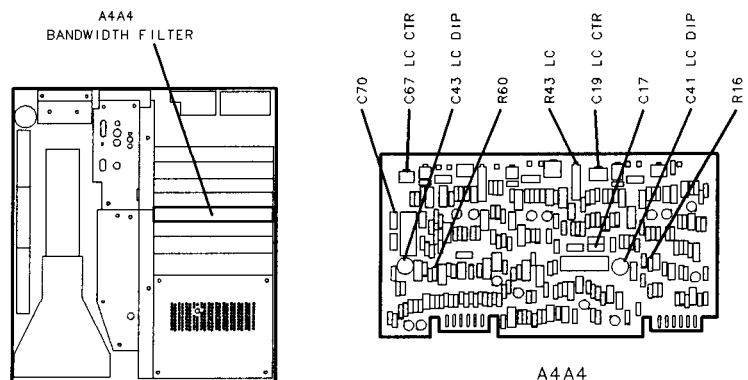

Figure 3-41.
9. Adjust A4A4C67 LC CTR and A4A4C19 LC CTR for maximum MARKER level as indicated by CRT annotation. See Figure 3-41 for location of adjustments. If unable to adjust LC CTR adjustments for satisfactory signal amplitude, increase or decrease value of A4A4C17 and A4A4C70. Refer to Table 3-3 for range of values.
12. Adjust **A4A4R43** LC to align markers on display. **MARKER A** level should indicate 1.00 X. See Figure 3-41 for location of adjustment.
57. Adjust **A4A4C41** LC DIP for minimum amplitude of signal peak. See Figure 3-41 for location of adjustment. Key in **MARKER** (PEAK SEARCH), **MARKER** **(Δ)**, and then press **MARKER** (PEAK SEARCH) and re-adjust LC DIP to offset the signal peak approximately -17 kHz (to the left). This is done to compensate for operating the **A4A4** Bandwidth Filter on extender boards. If unable to achieve a “dip” in signal amplitude, increase or decrease value of **A4A4R16**. Refer to **Table 3-3** for range of values.
59. Adjust **A4A4C43** LC DIP for minimum amplitude of signal peak. See Figure 3-41 for location of adjustment. Key in **MARKER** (PEAK SEARCH), **MARKER** **(Δ)**, and then press **MARKER** (PEAK SEARCH) and re-adjust LC DIP to offset the signal peak approximately -17 kHz (to the left). If unable to achieve a “dip” in signal amplitude, increase or decrease value of **A4A4R60**. Refer to **Table 3-3** for range of values.